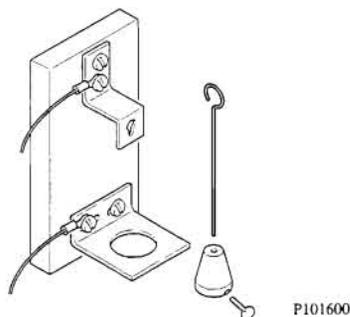

FIGURE 11: PLUMB BOB TILT ASSEMBLY
22) Locate plumb bob parts. Install thumbscrew into threaded hole on lead weight. Insert hook wire into tapered end of lead weight. Raise wire & weight up into bottom tilt bracket and hang from top bracket. Adjust and tighten screw firmly (see Figure 11).